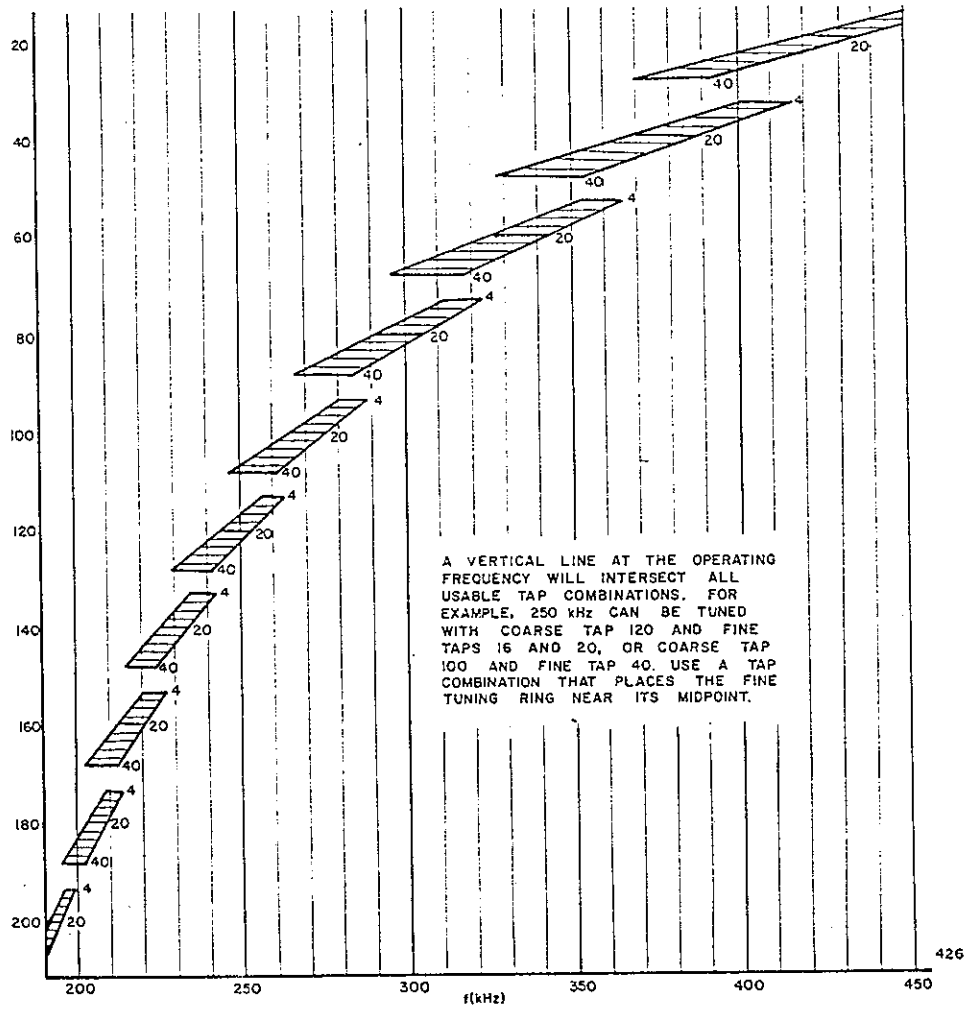

FIGURE 7-2
11. Set all taps according to Figures 7-2 through 7-5. Fine tuning taps are chosen with a front panel switch. The coarse tap is chosen by connecting a clip lead to the proper coil tap behind the coil access panel. A permanent connection will be made later.
1. Set the coarse and fine taps according to figures 7-2 through 7-5. These are representative tuning charts for various Southern Avionics antenna systems and represent a starting point for tuning to other antenna systems. A clip is furnished on the RF output lead to facilitate initial coarse tap selection. After final tap selections, remove the clip and trim the wire to the proper length insuring that at least 2 inches (5 cm) separates the wire from both the coil and the coupler enclosure. Dress the wire to avoid sharp bends which may lead to high voltage corona discharge, and solder the wire to the selected coil coarse tap.